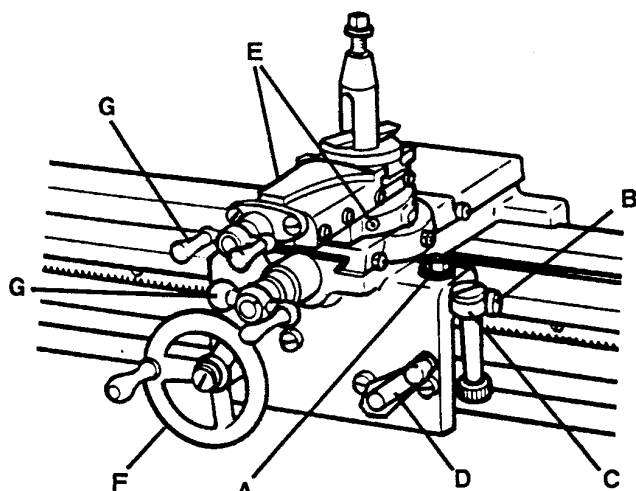

FIGURE 16
**HANDWHEEL (F, Figure 16)** manually moves carriage along the lathe bed.
**CROSS FEED AND TOOL POST SLIDE CRANKS (G)** move the cross slide and tool post slide in and out. Crank collars are graduated in thousandths of an inch.
**TOOL POST SLIDE** can be turned in a complete circle, by loosening the two socket set screws (E) and is graduated in degrees from 0° to 180° so that any angle can be cut.
**CARRIAGE LOCK SCREW (A)** locks carriage to bed for facing or cutoff operations.